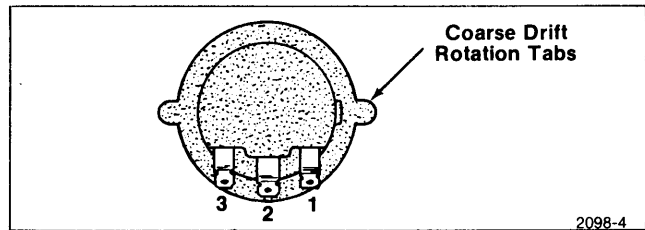

Fig. 2-3. Resistors on the Joystick assembly.
11. Measure the resistance between pins 1 and 3 on the control potentiometers. (Refer to Fig. 2-3.) The resistance should be approximately 5 k $\Omega$ .
12. To check the coarse drift adjustment, set the resistance meter to measure 1.25 k $\Omega$ . With a small piece of wire, short across pins 1 and 3. (Refer to Fig. 2-3.) Measure the resistance between pin 2 and the shorted pins. As the drift trim tab is moved back and forth from one extreme to the other, the measured resistance should reach a maximum near the center of the range of drift trim tab movement and should decrease as the drift trim tab is moved in either direction from center. If the maximum is reached near the center as just described, the coarse drift adjustments are properly set; assuming that crosshair cursor drift could not be stopped, trouble must exist elsewhere.